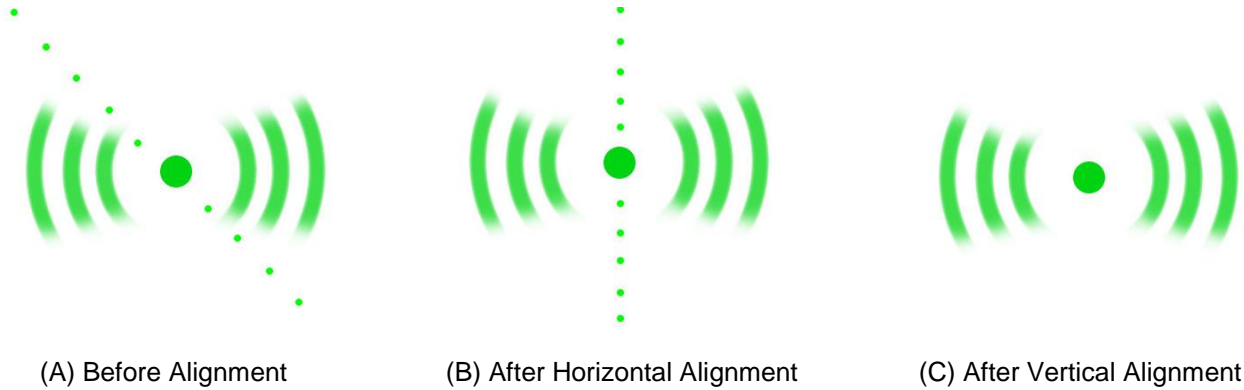

Figure 2-27 Alignment Process
9. Press the 0.010" indium foil onto the side of the copper block, and carefully place it into the SHG mount with the Indium against the side opposite the ball plungers. Thread in the ball plunger (circled in yellow, **Figure 2-27**) until it presses the contact block into the wall of the mount as shown in **Figure 2-27**. Back it off an eighth-turn.
18. See **Figure 2-27**. If reflections are not vertical, rotate the top of the SHG assembly so the satellite beams seen on the power meter detector overlap the main laser beam as shown in **Figure 2-27**.
19. See **Figure 2-27**. Place a shim with proper thickness between the SHG assembly base and the laser bench to make the beams overlap in the vertical direction as shown in **Figure 2-27**. Loosening the base screws will be required. Tighten all the screws for the SHG assembly and top mount.